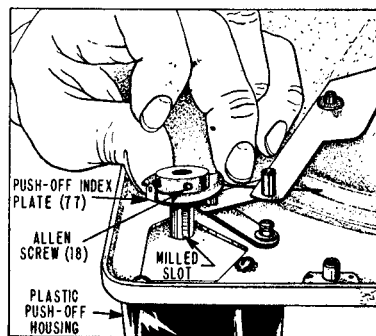

Figure 10. Installing Push-Off Index Plate.
Position the push-off index plate (77) as shown in figure 10. Be sure that the Allen screw which is called out "falls into" the milled slot.